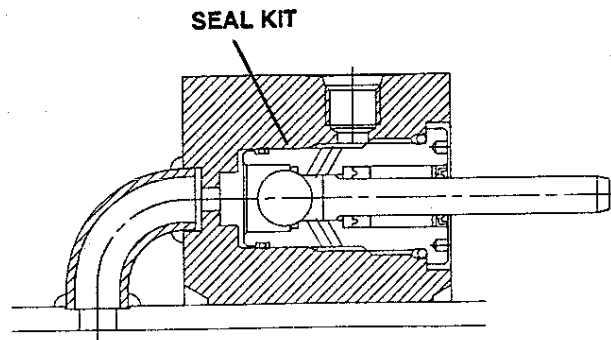

Figure G1-10. SEQUENCE VALVE
6. Remove the sequence valve and check condition of all parts. See Figure G1-10.